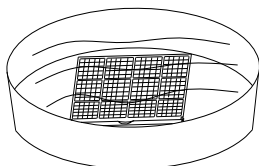

Figure 15
3). Put the evaporator filter frame, condenser filter frame, evaporator filter mesh, and condenser filter mesh into warm water (about 104°F) to which neutral cleaner is added for cleaning and then dry them in the shade (as shown in Figure 15).